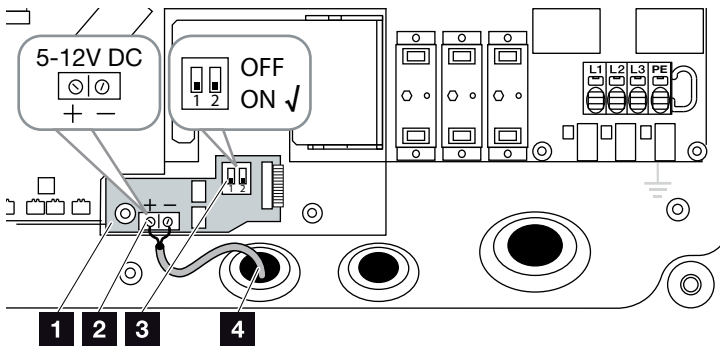

Fig. 25: PIKO EPC AC Off Switch board
- 1.** Guide control cable into inverter and connect to terminal  **Fig. 25, It. 2** of printed circuit board (PCB).
- 3.** Move DIP switch to ON position  **Fig. 25, It. 3**